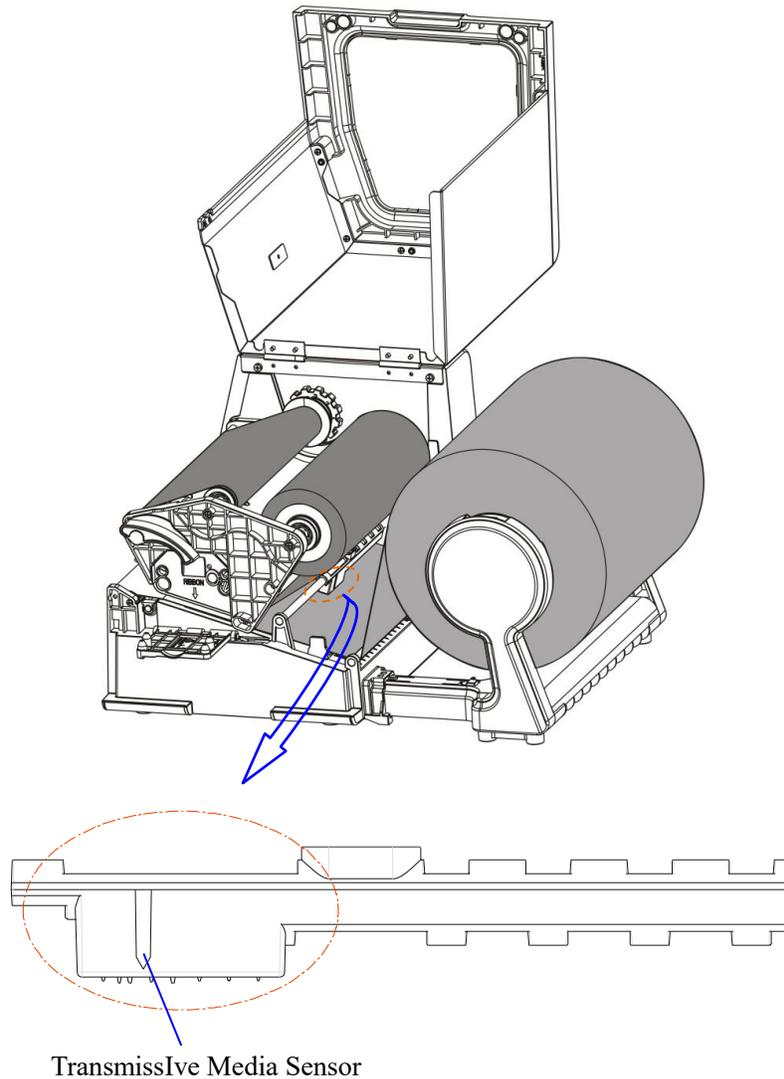

Figure 2-23
1. The Transmissive Media Sensor is located on a metal bar that under the ribbon supply area (figure 2-23), please note to load the media correctly according the procedures of “Loading the Media” on P15.